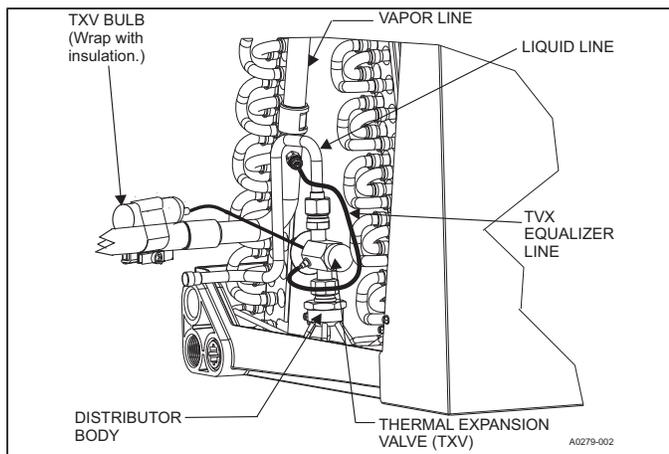

FIGURE 7: TXV Bulb and Equalizer line Installations
6. Install the TXV equalizer line onto the vapor line by hand tightening the 1/4" SAE coupling nut to the equalizer fitting, and apply an additional 1/3 turn to seal. See Figure 7.
8. Install the TXV bulb to the vapor line near the cabinet, using the bulb clamp(s) furnished with the TXV assembly. Ensure the bulb is making maximum contact. See Figures 7, 8 & 9, and accomplish the following: